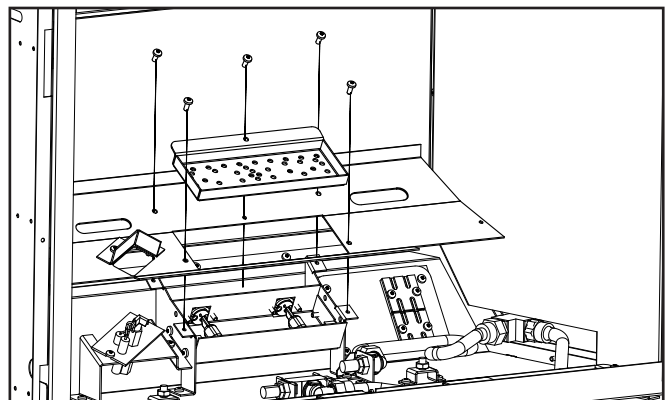

Figure 36: Rear Tray Removal
3. Remove the four (4) T20 screws holding the back tray and remove the back tray to gain access to the pilot (Figure 36).